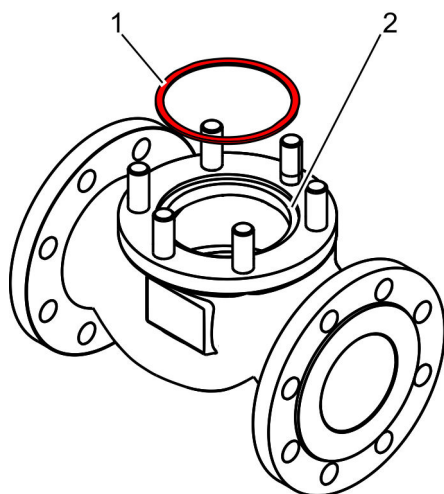

Fig. 9: Removing the gasket ring
5. ➔ Remove the gasket ring (Fig. 9/1) from the groove (Fig. 9/2) in the body.
8. ➔ Insert the new gasket ring (Fig. 9/1) into the groove (Fig. 9/2) in the body.